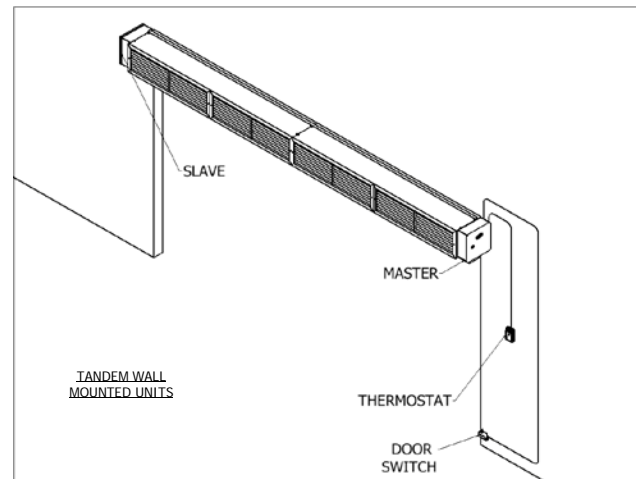

FIG. 1
3. Electrically heated Wind Stopping and WindGuard units include an electric heater control panel mounted on the right hand side, as standard (FIG. 1). Optional motor/unit control panel available, which includes a remote 24 volt thermostat with On/Off switch with terminals provided.